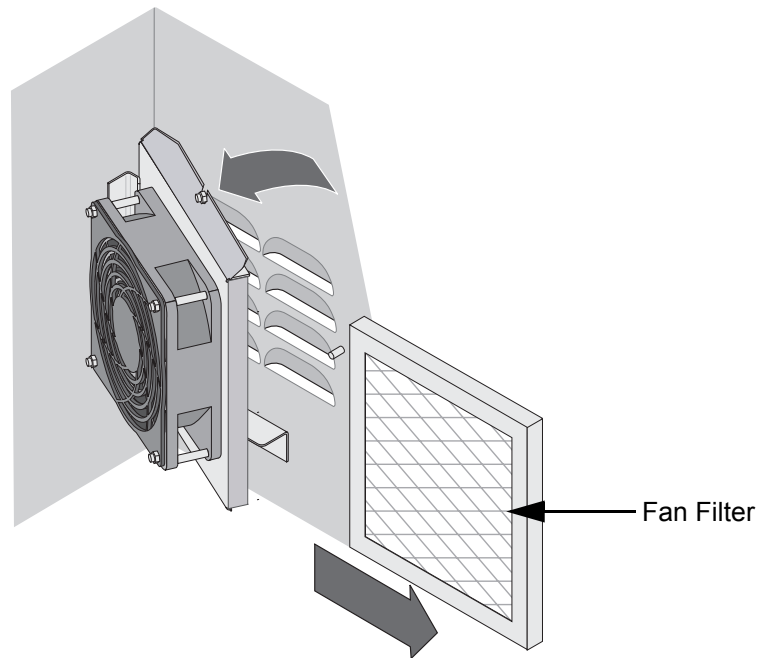

Figure 8-6: Fan Filter Removal
- 4 Pull out the front of the fan assembly and remove the fan filter (Figure 8-6).